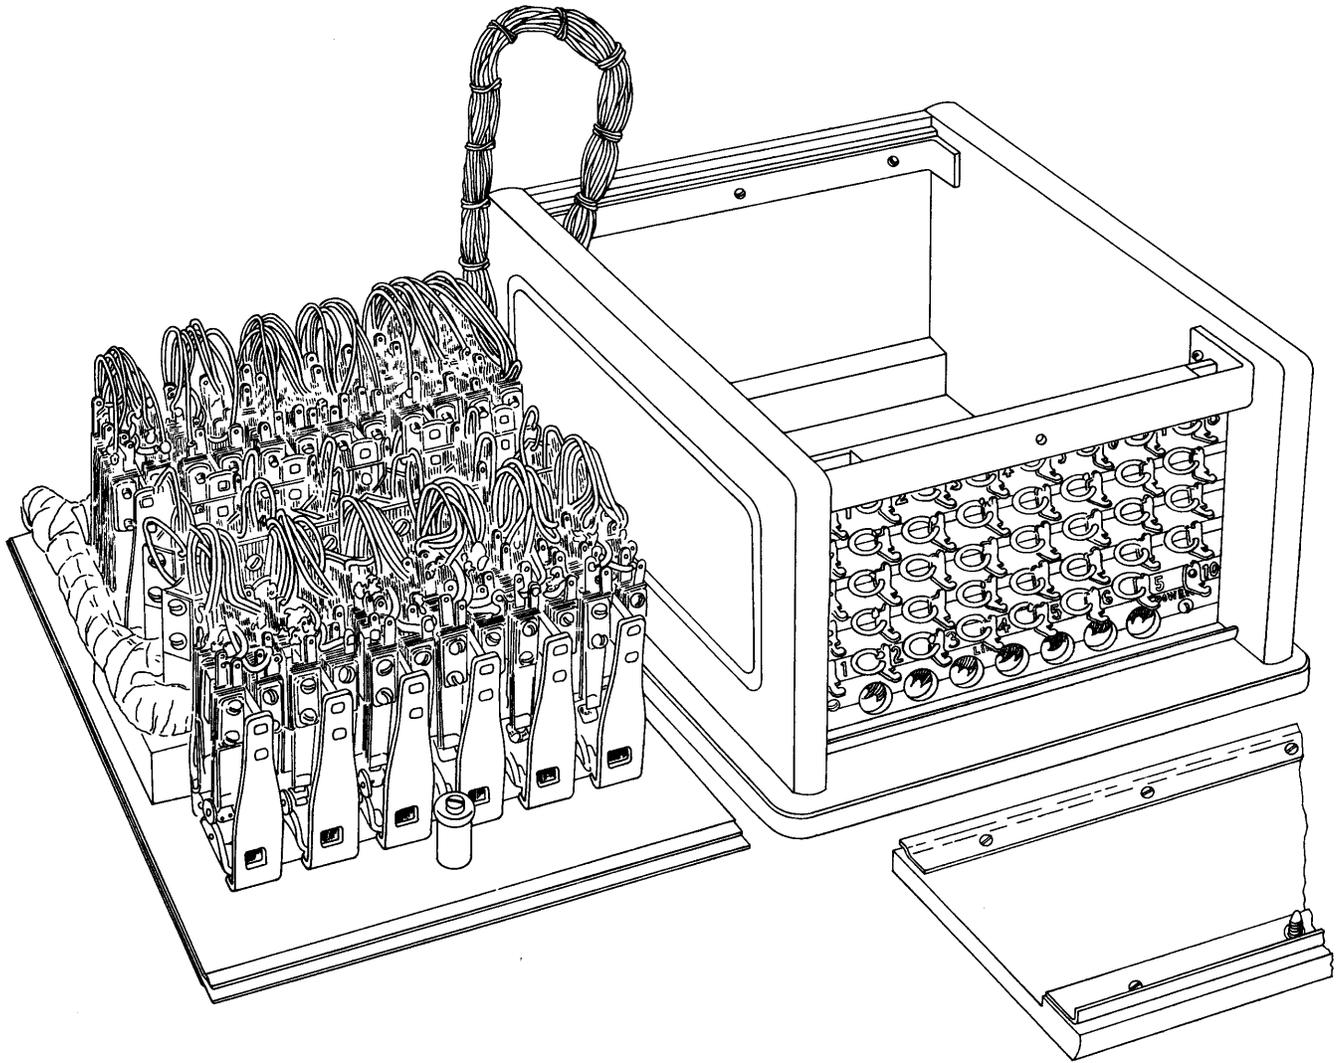

Fig. 3 – Internal View of Key Box
**4.01** Small wooden boxes containing line pickup and hold keys, line and busy lamps, and a terminal strip to accommodate wiring cable (see Fig. 3).